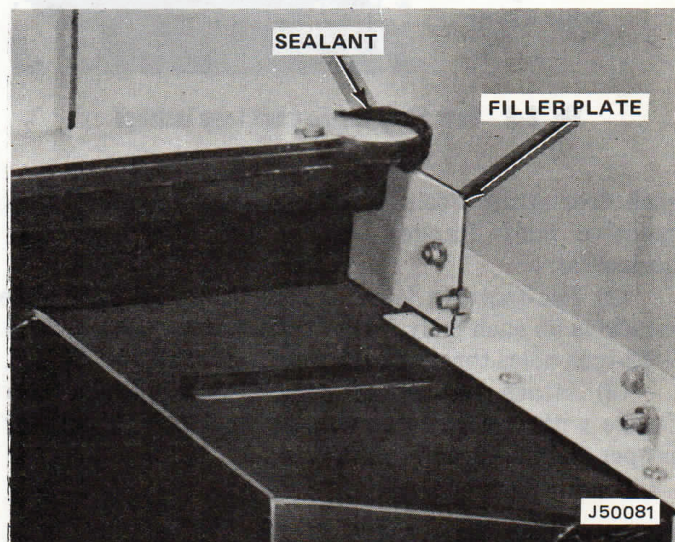

Fig. 2-14 Filler Panel and Body Sealant Installation
(2) Use slotted hole in each filler plate as guide and drill 13/64-inch hole through reinforcement angle and rear panel. Fasten with truss-head screws and locknuts.
(3) Force strip sealant between mating edges of filler plates and body and between filler plates and rear panel (fig. 2-14).